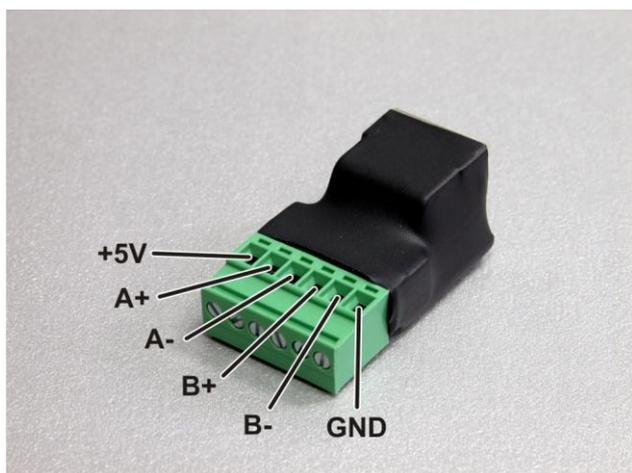

Figure 1.1
Differential-differential encoder interface DD1 (Figure 1.1 and Figure 1.2) is used for connection of differential (optionally single-ended) incremental encoder to DC servo driver DCS-3010(-HV) or DCS-100-A.
- Removable six-pole connector for connection with incremental encoder. Arrangement of pins of this connector is shown in Figure 1.1., and